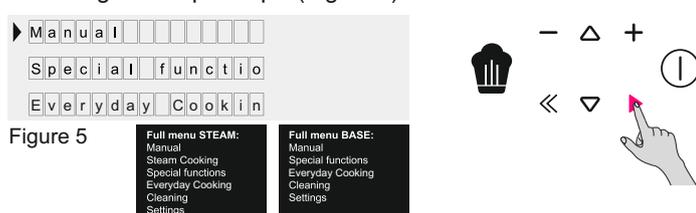

Figure 5
- Press the OK button when arrow on the display at MANUAL to set a cooking in 3 simple steps. (Figure 5)